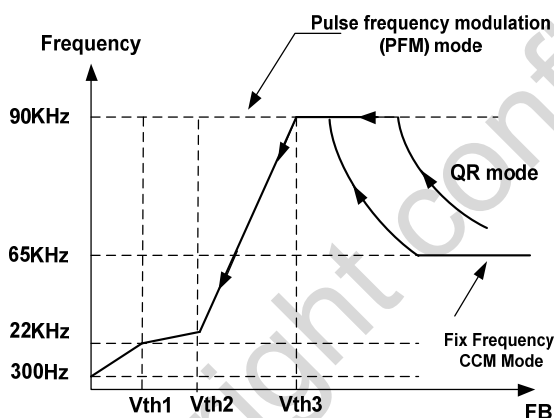

Figure 2 Multi-mode operation diagram
OB2372 is an excellent integrated multi-mode (see Figure 2) PWM controller optimized for off-line middle power AC/DC applications. It operates in continuous conduction mode (CCM) and quasi-resonant mode (QR) to provide high efficiency with primary side sensing and regulation thus provide cost effective solution for energy efficient power supplies.